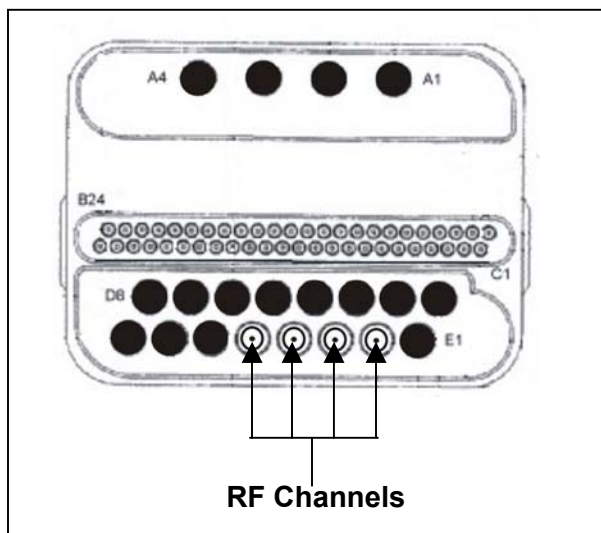

Figure 16: RF connectors for the EXCITE system.
Step 5 – Refer to *Figure 16* for the location of the RF connectors for the EXCITE system.